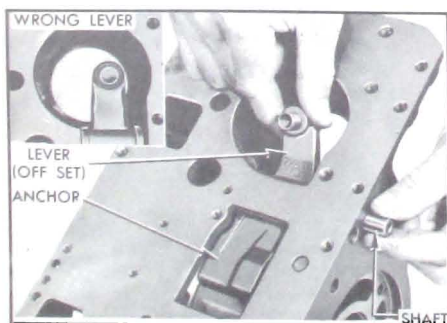

Figure 5-110—Installing Reverse Band Operating Lever and Shaft
4. Hold band operating lever (with offset end) in place with strut shoulder toward inside of case, and insert anchor shaft through case, anchor, and lever. Tapped end of shaft must be outward. If adjustment screw is not centered in servo opening, the low band operating lever has been installed by mistake. See Figure 5-110.